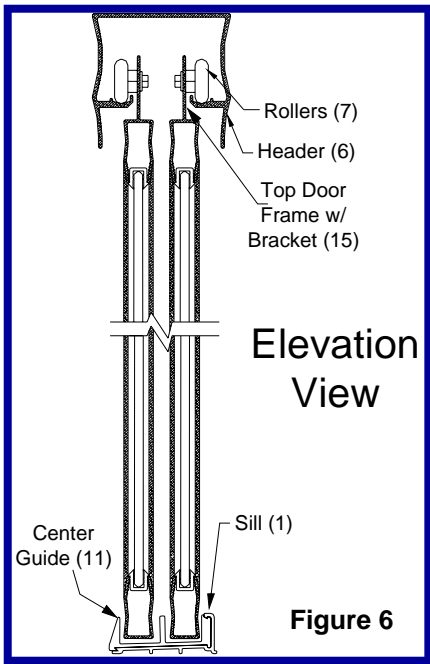

Figure 6
- (Note: When screws are loose, support the panel so it does not fall and break.)* **(See Figure 6)**